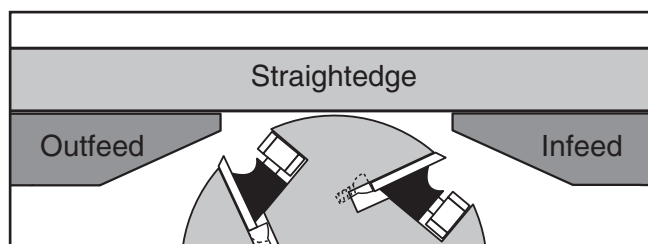

Figure 77. Checking table parallelism.
4. Rotate cutterhead until knife/insert is no longer at TDC, extend straightedge over both tables, raise infeed table until it contacts straightedge (see **Figure 77**), then lock infeed table.